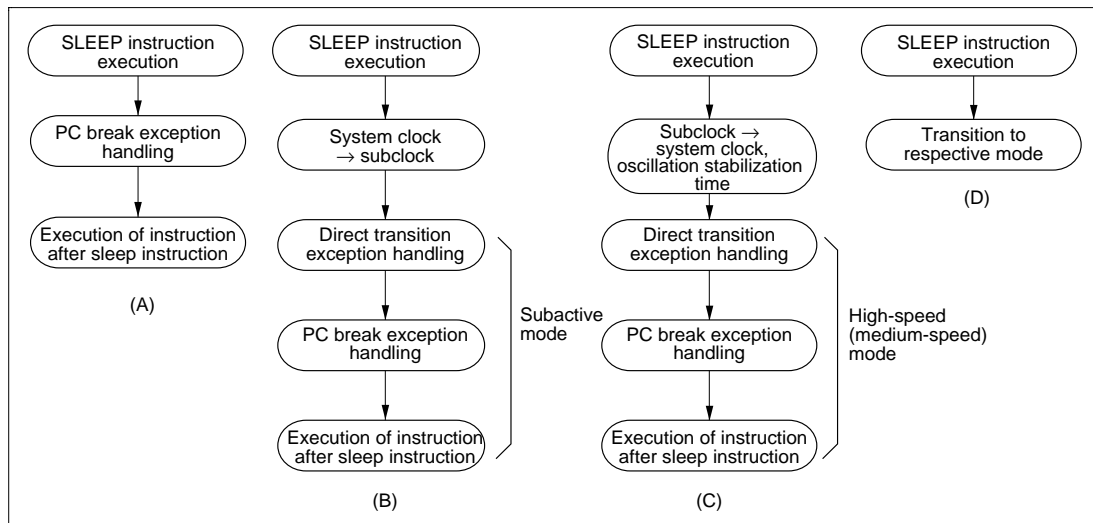

Figure 6-2 Operation in Power-Down Mode Transitions
- (1) When the SLEEP instruction causes a transition from high-speed (medium-speed) mode to sleep mode, or from subactive mode to subsleep mode:
After execution of the SLEEP instruction, a transition is not made to sleep mode or subsleep mode, and PC break interrupt handling is executed. After execution of PC break interrupt handling, the instruction at the address after the SLEEP instruction is executed (figure 6-2 (A)).
- (2) When the SLEEP instruction causes a transition from high-speed (medium-speed) mode to subactive mode:
After execution of the SLEEP instruction, a transition is made to subactive mode via direct transition exception handling. After the transition, PC break interrupt handling is executed, then the instruction at the address after the SLEEP instruction is executed (figure 6-2 (B)).
- (3) When the SLEEP instruction causes a transition from subactive mode to high-speed (medium-speed) mode:
After execution of the SLEEP instruction, and following the clock oscillation stabilization time, a transition is made to high-speed (medium-speed) mode via direct transition exception handling. After the transition, PC break interrupt handling is executed, then the instruction at the address after the SLEEP instruction is executed (figure 6-2 (C)).
- (4) When the SLEEP instruction causes a transition to software standby mode or watch mode:
After execution of the SLEEP instruction, a transition is made to the respective mode, and PC break interrupt handling is not executed. However, the CMFA or CMFB flag is set (figure 6-2 (D)).